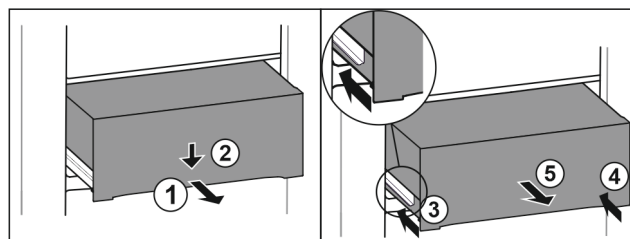

Fig. 140
- Pull out the drawer halfway. Fig. 140 (1)
- Press down the drawer on the front. Fig. 140 (2)
- Push in the left rail approximately 2 cm (13/16 in). Fig. 140 (3)
- Push in the right rail approximately 2 cm (13/16 in). Fig. 140 (4)
- Remove drawer to the front. Fig. 140 (5)